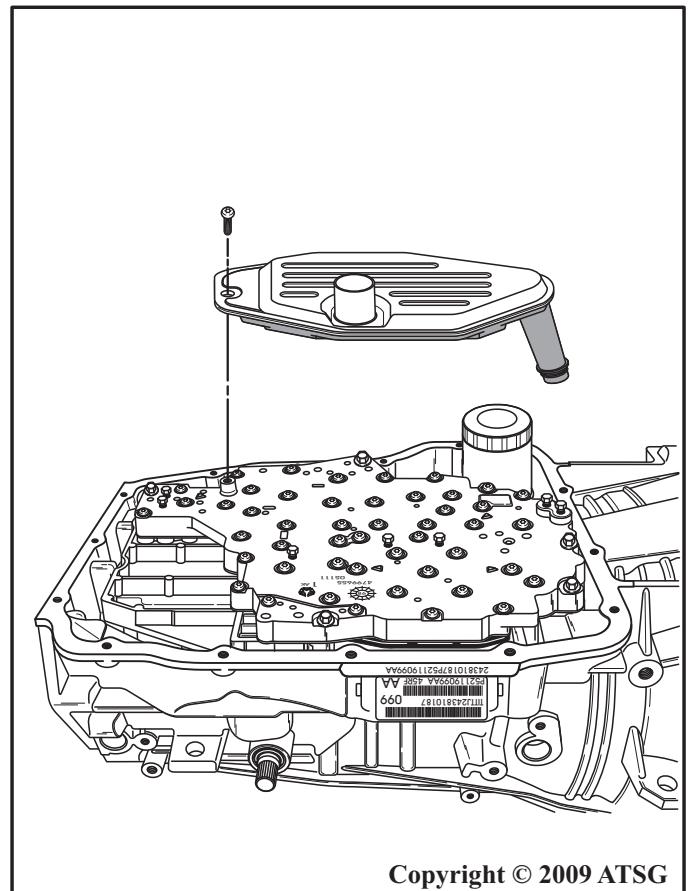

Figure 32
12. Remove the bottom pan filter retaining screw, using a 25 Torx bit (See Figure 32).
13. Remove and discard the bottom pan oil filter, as shown in Figure 32.